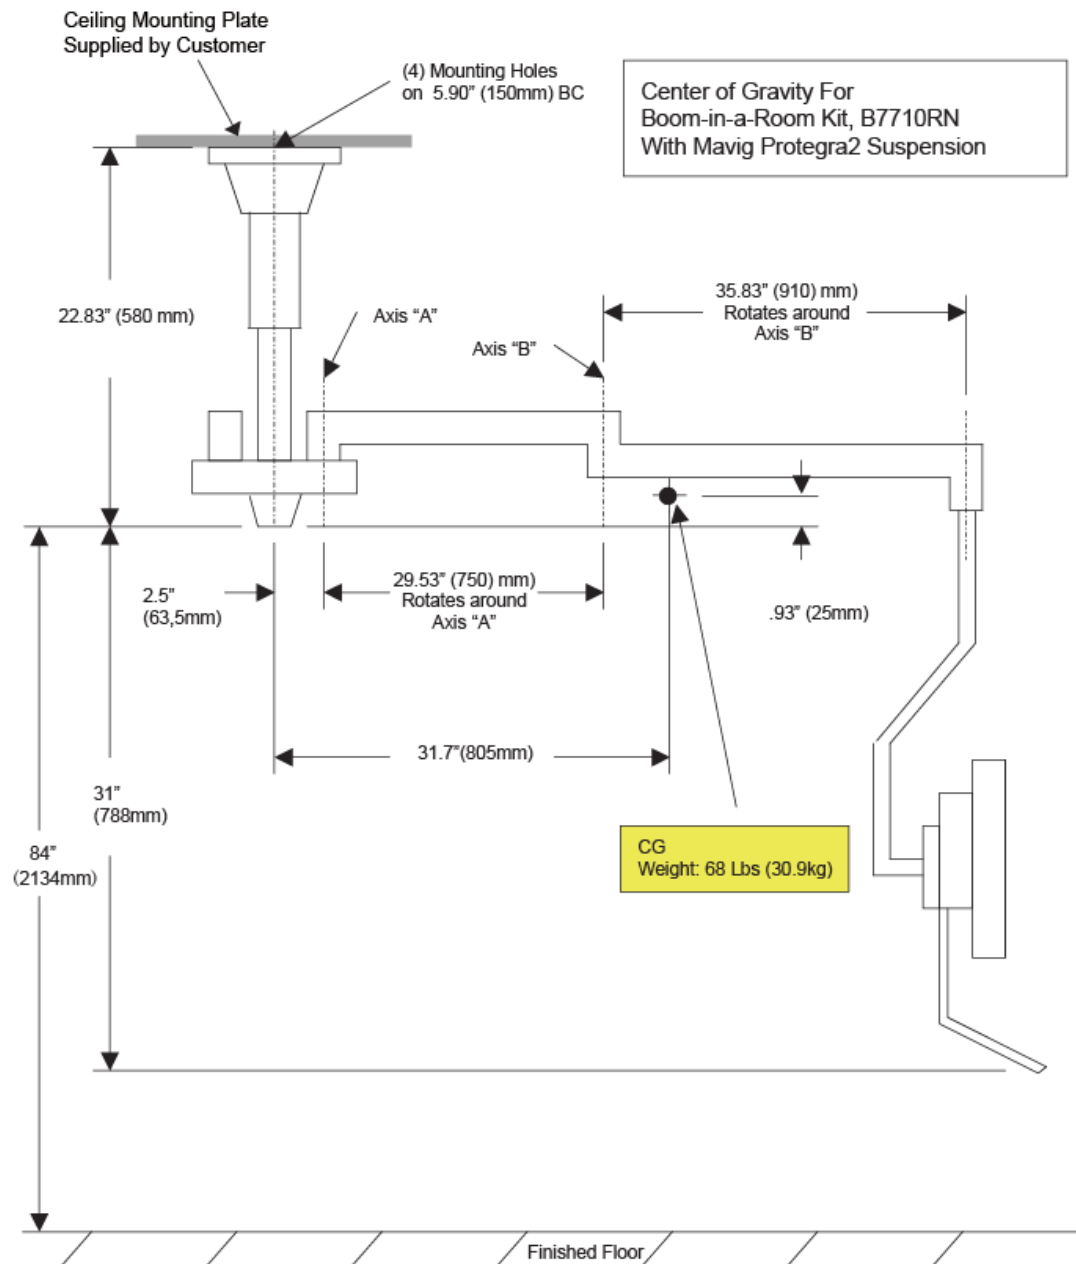

Figure 8-1 Center of Gravity for Boom-in-a-Room Kits, shown on the site print
The pedestal-ceiling mount requires a flush ceiling mounting plate that is structurally supported to handle the weight of the load as shown in Figure 8-1. You can order a Mavig-designed ceiling plate (p/n E8007PJ / E8004NG). This 356 mm x 356 mm (14 in. x 14 in.) plate has pre-drilled 1/2 in. mounting holes in each of the four (4) mounting corners. It can be used for GE approved injector or Remote monitor.
The pedestal-ceiling mount assembly must be installed at least 2134 mm (84 in.) from the lowest point to the finished floor. (See Figure 8-1)